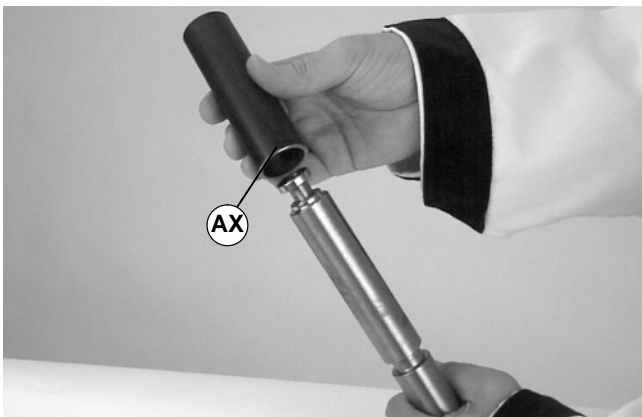

Figure 39
- Slide the sleeve of tool (part # 450282) (AX of Figure 39) over bearing.